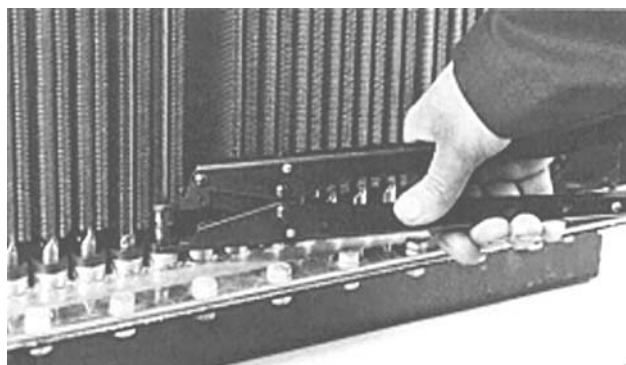

FIGURE 3-7. INSTALLATION TOOL (VJ6567)
2. After the tube is loose, position the installation tool (VJ6567) at the bottom of the tube to be removed. Refer to Figure 3-7. The upper jaw of the installation tool should be positioned just below the rectangular section of the tube. The bottom jaw should rest on the seal. Squeeze the installation tool just enough to allow the bottom of the tube to be removed from the bottom seal.